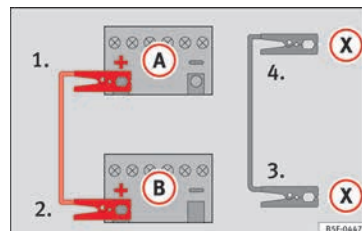

Fig. 71 Diagram of connections for vehicles with Start-Stop system.
- *For vehicles with Start-Stop system:* connect one end of the *black* jump lead (X) to a suitable ground terminal, to a solid piece of metal in the engine block, or to the engine block itself » Fig. 71.
5. Connect the other end of the *black* jump lead (X) to a solid metal component bolted to the engine block or to the engine block itself of the vehicle with the flat battery. Do not connect it to a point near the battery (A).